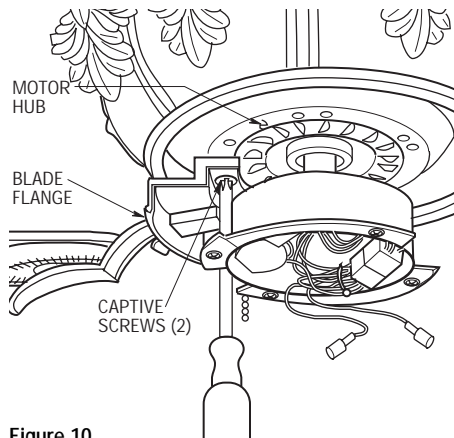

Figure 10
- 11. Position the blade flange on the motor hub so that the captive screws in the blade flange align with two threaded holes in the motor hub (Figure 10). Loosely tighten the captive screws at this time. Repeat this procedure for the remaining four blade assemblies.